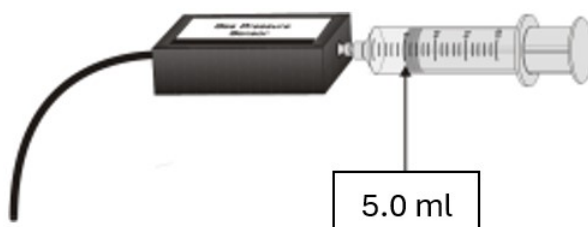

Figure 3: Syringe connected to the Vernier gas pressure sensor, with an arrow pointing to 5.0 mL.
- b. Move the piston so the front edge of the inside black ring (see Figure 3) is positioned at the 5.0 mL line on the syringe. Hold the piston firmly in this position until the pressure value displayed on the screen stabilizes.